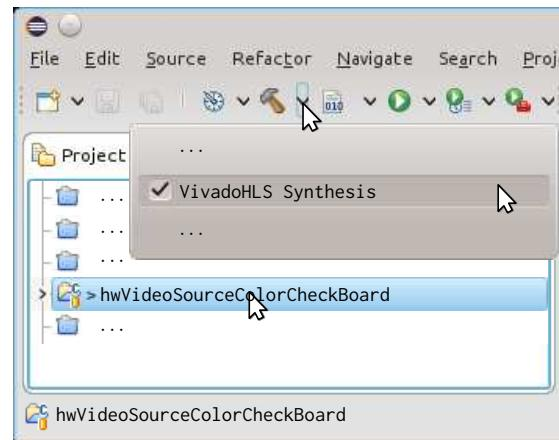
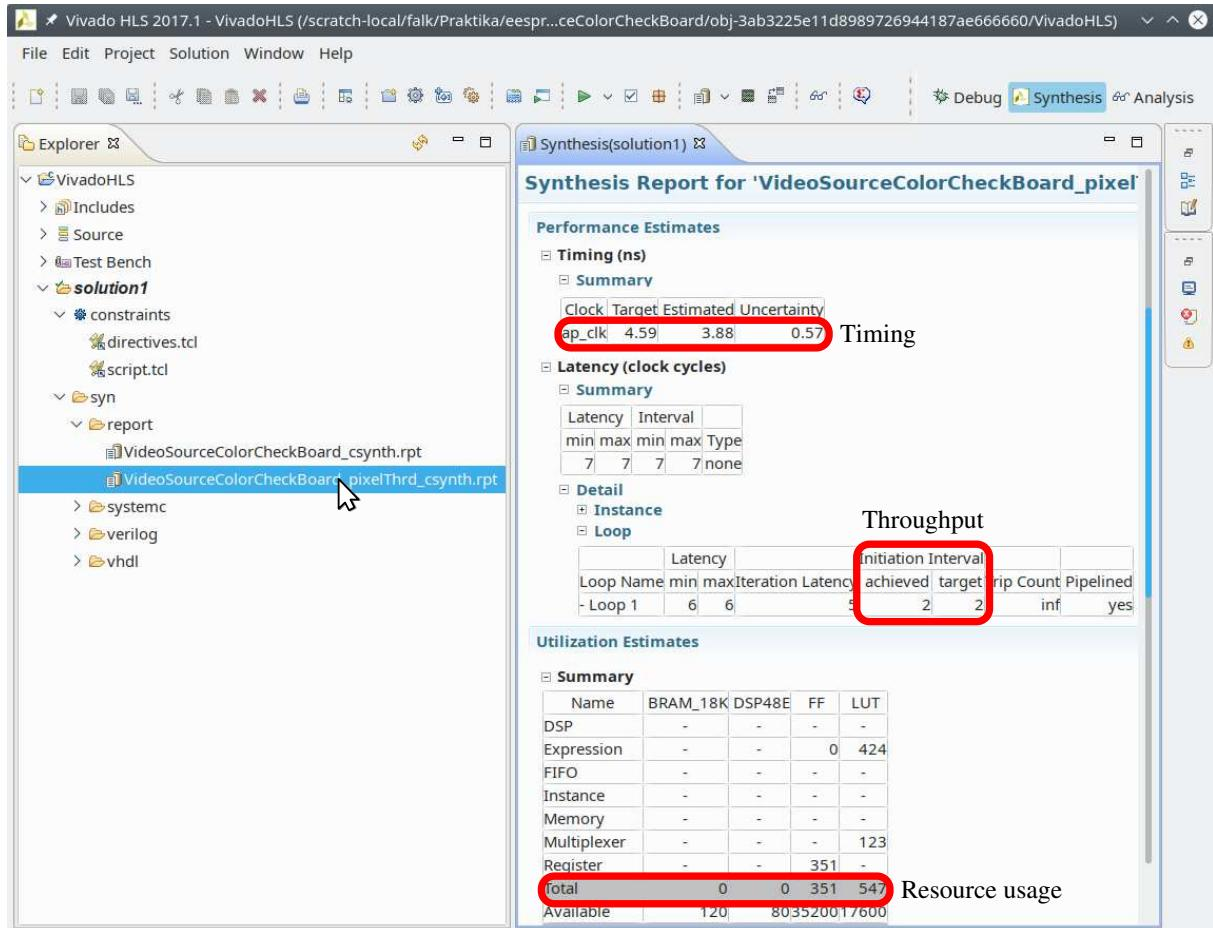
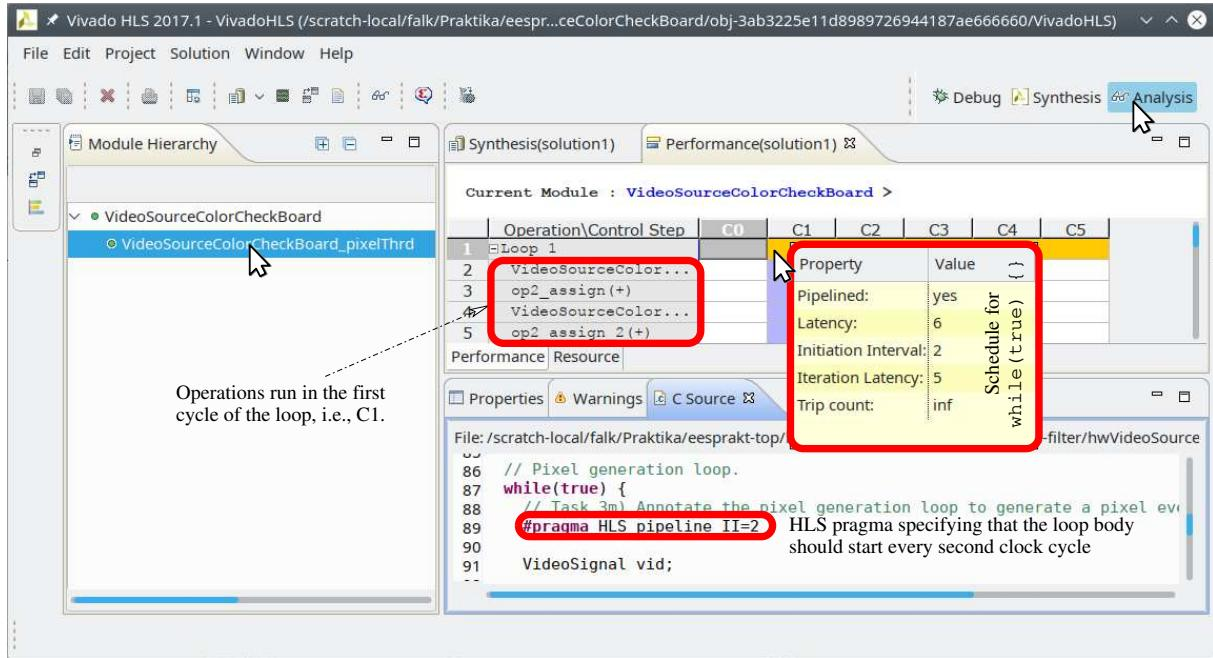

Figure 16: Starting VivadoHLS to synthesize the CCB into an IPB
Figure 17: Synthesis report for the CCB IPB
Figure 18: Examining the schedule of the `while (true) { ... }` loop in more detail
In contrast, the VideoSourceColorCeckBoard IPB is not initially present in the repository and will be generated using High Level Synthesis (HLS) from the VideoSource-ColorCheckBoard SystemC module present in the hwVideoSourceColorCheckBoard project. For this purpose, the **VivadoHLS** tool from Xilinx is employed. You can start VivadoHLS for the CCB module by selecting VivadoHLS Synthesis in the compile menu as shown in Figure 16. This will start HLS and then open the VivadoHLS GUI (see Figure 17) so that you can examine the synthesis results in terms of obtained timing, resource usage, throughput, etc. In this process three steps will be performed as can be seen in the console windows of Eclipse. First, HLS is started with `vivado_hls -f VivadoHLS.tcl` producing the following output in the Eclipse console window:
After this, the VivadoHLS GUI will open. To see a report for the synthesis result of the `pixelThrd` process, you can open its report under **VivadoHLS** \triangleright **solution1** \triangleright **syn** \triangleright **report** by double clicking on **VideoSourceColorCeckBoard_pixelThrd_csynth.rpt**. This should display the *synthesis report* shown in the right half of Figure 17. There, three things are highlighted in red: (i) the Timing that indicates an estimation of VivadoHLS how fast the IPB can be clocked, e.g., here with a frequency of $\frac{1}{3.88\text{ns}}$, (ii) how many resources the IPB requires, e.g., here 351 Flip Flops (FFs) and 547 Look-Up Tables (LUTs), and (iii) the throughput of the loops in a process, e.g., here the sole while (true) $\{\dots\}$ loop achieving an Initiation Interval (II) of two clock cycles, i.e., the loop body is started every second clock cycle.
A more detailed look into the schedule of the `pixelThrd` process can be taken by opening the *analysis* perspective by clicking **Analysis** on the toolbar (see Figure 18) and selecting **Video-SourceColorCeckBoard_pixelThrd** in the *module hierarchy* opening the *Performance(solution1)* tab where the schedule of the `pixelThrd` process is depicted. There are five clock cycles depicted in the schedule C_0 to C_5 . What operation are run in what cycle can be examined in the *Operation\Control Step* column of the *Performance(solution1)* tab. The schedule of the while (true) $\{\dots\}$ loop is depicted in orange from clock cycle C_1 to C_5 . Hovering the mouse over this orange bar will trigger a pop-up with an overview of the scheduling of the loop. There, you will see the same details for the while (true) $\{\dots\}$ loop (**Loop1**) you found under **Detail** \triangleright **Loop** \triangleright **Loop1** in the *synthesis report* shown in the right half of Figure 17. To exemplify, the while (true) $\{\dots\}$ loop will start at every second clock cycle (II is two clock cycles) and that the loop body takes five clock cycles to complete (iteration latency is five clock cycles). Thus, executions of the loop will overlap, i.e., the loop is *pipelined*. How the loop is scheduled by VivadoHLS is controlled by *pragmas*, e.g., the pragma `#pragma HLS pipeline II=2` in the first line of the body of the while (true) $\{\dots\}$ loop instructs VivadoHLS to find a schedule of the loop where an execution of the loop body starts at every second clock cycle. **Note that VivadoHLS might not find such a schedule and, thus, you have to check if the instructions to VivadoHLS for the scheduling of loop have been satisfied for your designs.** An overview of all VivadoHLS pragmas can be found in `~/03_filter/documentation/ug1253-sdx-pragma-reference.pdf` in chapter **HLS Pragmas**.
To start, open a console and type `vivado`. Then, select the *workspace-vivado-filter.xpr* project file by following the steps in Figure 19. When opened, you can see that two block designs `ccb` and `sobel` (marked red in Figure 20) have been prepared for you as examples. However, both block designs are still disabled. We will first generate the bit file for the `ccb` block design. Thus, enable the block design by following the steps depicted in Figure 20. Next, open the *IP catalog* view in Vivado by clicking on **Window > IP Catalog** as shown in Figure 21. This should result in a view similar to the one in Figure 22. There, you can see the two *user IP repositories* (marked with a red box) as well as the *Vivado IP repository* containing IPBs from Xilinx that are shipped with Vivado. To notify Vivado the new IPBs might have appeared in the user IP repositories, you have to refresh the repositories as indicated in Figure 22. Next, open the `ccb` block design (see Figure 23) and run **Tools > Report > Report IP Status** as shown in Figure 24 to instruct Vivado to check if newer version of IPBs are available for the `ccb` block design. The result of this check is depicted in Figure 25. As can be seen, there is indeed a newer version of the `VideoSourceColorCheckBoard` present, i.e., the one you created via the HLS you started in Figure 16. The version of this IPB (in the red box) is determined from the date and time the HLS finished creating the IPB, e.g., the new IPB as depicted in Figure 25 has been created on the 21.3.2019 at 15:45 o'clock. Thus, you can check the version of IPBs used in a block design to determine if this block design already contains the latest changes you made to the SystemC sources of the IPB. To upgrade to this new version, check mark the IPB and click the **Upgrade Selected** button as depicted in Figure 25.